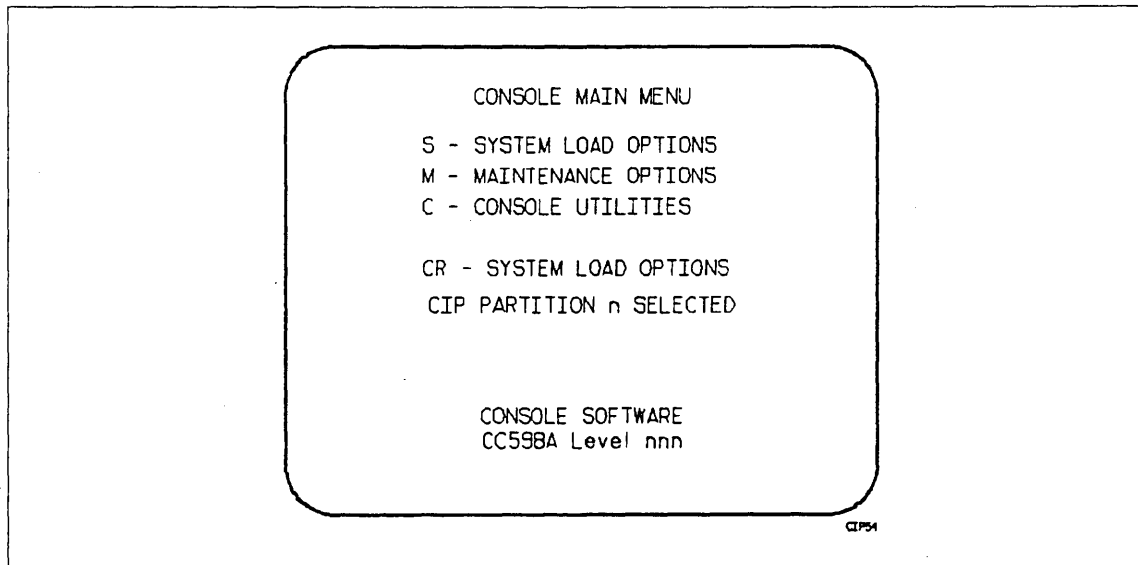

Figure 5-6. Console Main Menu (CC598A Console)
- ___ 1. If the console is already initialized, but the CONSOLE MAIN MENU is not currently being displayed, simultaneously press the Ctrl and F2 keys to bring up the CONSOLE MAIN MENU (figure 5-6).
- ___ 2. If the console is not initialized, simultaneously press the Ctrl, Alt, and Del keys. The CDC logo will appear. Approximately ten seconds thereafter, the CONSOLE MAIN MENU (figure 5-6) will appear.